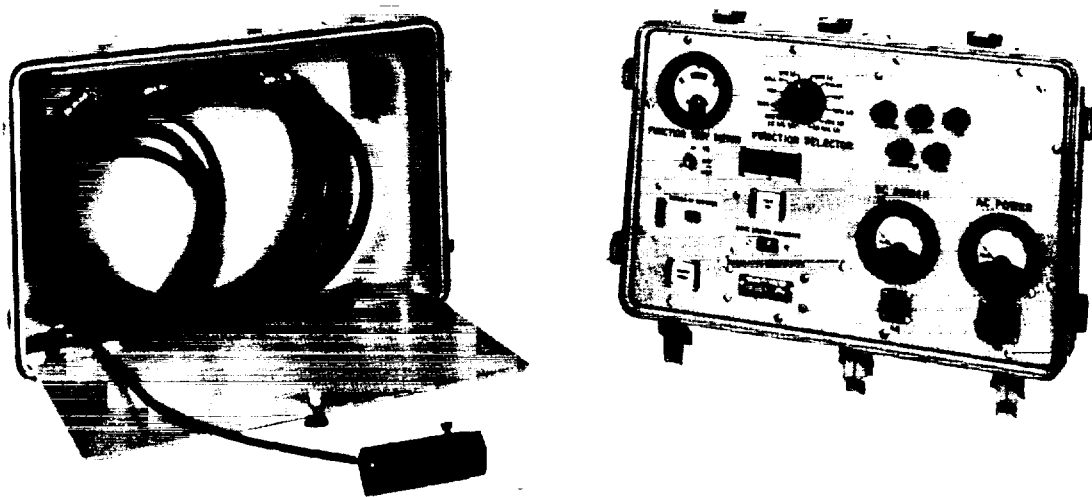

Figure 31. Test Set, Camera System LS-71A.
36. Test Set, Camera System LS-71A (fig. 31)
Test set Camera System LS-71A (FSN 6760937-1918) comprises an operable equipment and is shown in figure 31.